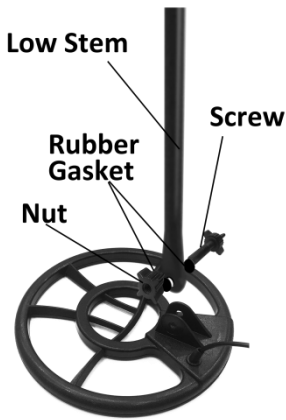

Fig.2
1. Loosen the lock knob on the lower stem, remove the bolt. Install the lower stem on the search coil, re-install the bolt and knob and lock it tightly (See Fig.2). Note that the rubber gasket should be located